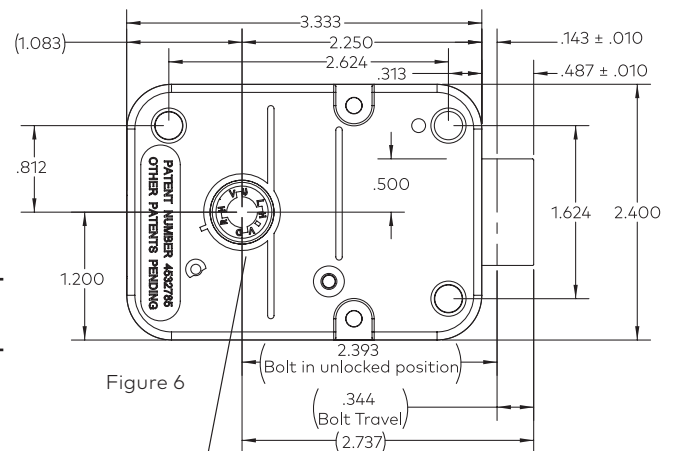

Figure 6
- Attach the lock assembly to the door using the three US mounting screws provided. Tighten the mounting screws to a torque setting of 30 in./lbs. (3.4 Nm). Insert short mounting screws into the hole with marking (Figure 6). This screw is not removed during servicing of the lock.